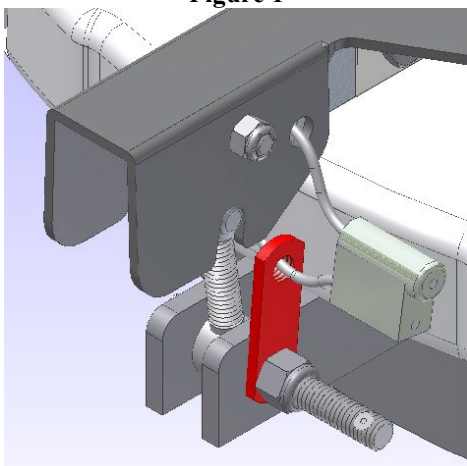

Figure 3
6. Loop the cable seal through both seal holes in the latch and through the weld nut. See Figure 3. Secure the cable seal and pull as tight as possible.